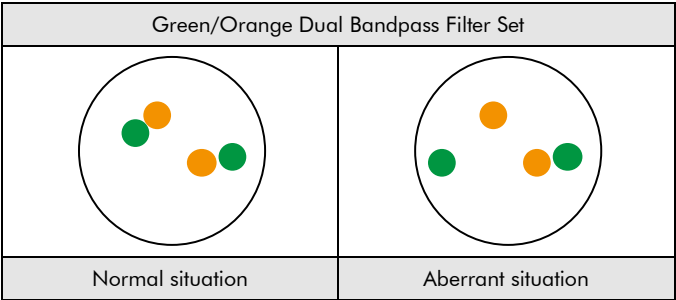

Fig. 2: Expected results in normal and aberrant nuclei
**Normal situation:** In interphases of normal cells or cells without a translocation involving the EWSR1 gene region, two green/orange fusion signals appear (see Fig. 2).
**Aberrant situation:** One EWSR1 gene region affected by a translocation is indicated by one separate green signal and one separate orange signal (see Fig. 2).